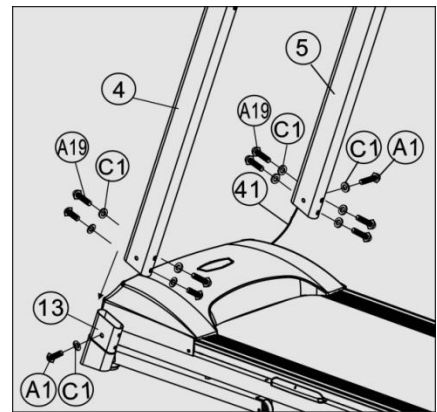

Figure 1
- A. Insert Left upright tube (4) to base frame (13), and attach four Half-round bolts M8X16 (A19), one Half-round bolt M8X45 (A1), and five Flat washers $\Phi 8$ (C1), Do not tighten all parts provisionally (see figure 1)
- B. Pull out the Signal wire (41) from the lower side to upper side of the right upright tube (5). (see figure 1)
- C. Insert Right upright tube (5) to base frame (13), and attach four Half-round bolts M8X16 (A19), one Half-round bolt M8X45 (A1), and five Flat washers $\Phi 8$ (C1), Do not tighten all parts provisionally (see figure 1)